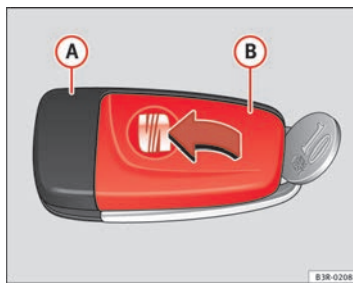

Fig. 69 Master key: Opening the cover
- **Carefully** prise apart the key ⇒ fig. 69 **A** and the cover **B** using a coin.